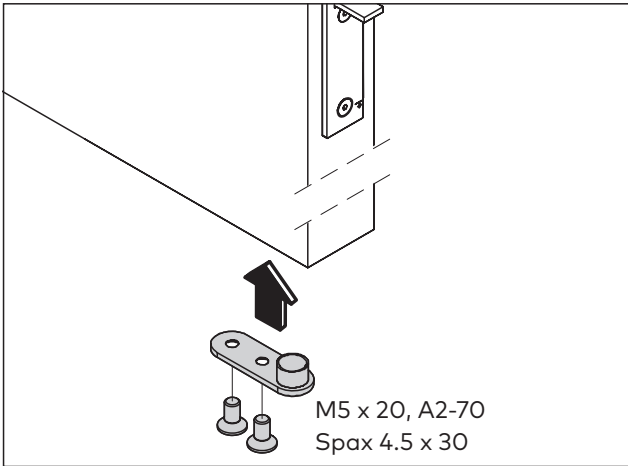

Fig. 46 Mount lower guide
- 7.** Mount the lower guide for the espagnolette bolt on the fixed leaf (Abb. 46).